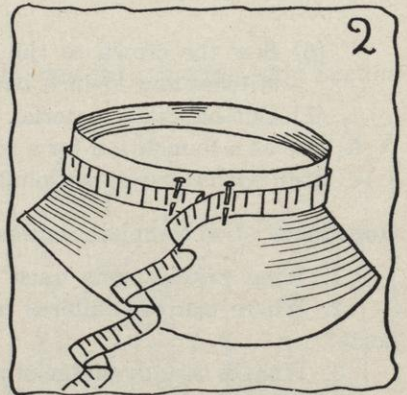

FIG. 2.
- a. Measure the headsize of the person for whom the crown is to be made (see Figure 1 of Job 1, page 3) or measure the outside of the headsize of the brim, over which the crown must fit (see Figure 2) and jot down that measurement.
- a. Either measure around the outside of the headsize of the brim for which the crown is to be made (see Figure 2 of Job 40, page 158) or measure the headsize of the person for whom the crown is to be made (see Figure 1 of Job 1, page 3).
- a. Lay the pattern on paper and pencil an outline of it six times. Be very careful and accurate in tracing (see Figure 2 A).
- d. Fold each of your patterns in half lengthwise to make a crease in the center, running from tip to headsize, so that they will look like Figure 2 B, and then open them out flat.